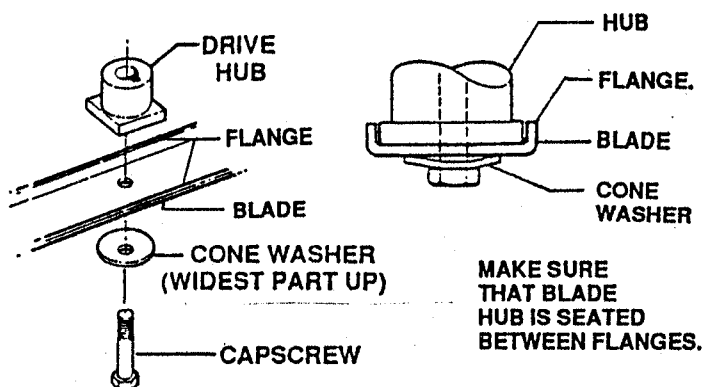

FIGURE 3.6
3. Remove blade. See Figure 3.6.
6. Reinstall blade. Refer to Figure 3.6. Torque blade mounting capscrew to 30 ft. lbs.